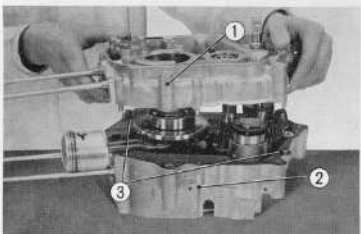

Fig. 3.85 Reassembling the crankcase
2. Assemble the right crankcase ① to the left crankcase. ② (Fig. 3.85)
Caution: Do not forget to install the two dowel pins. ③ (Fig. 3.85)